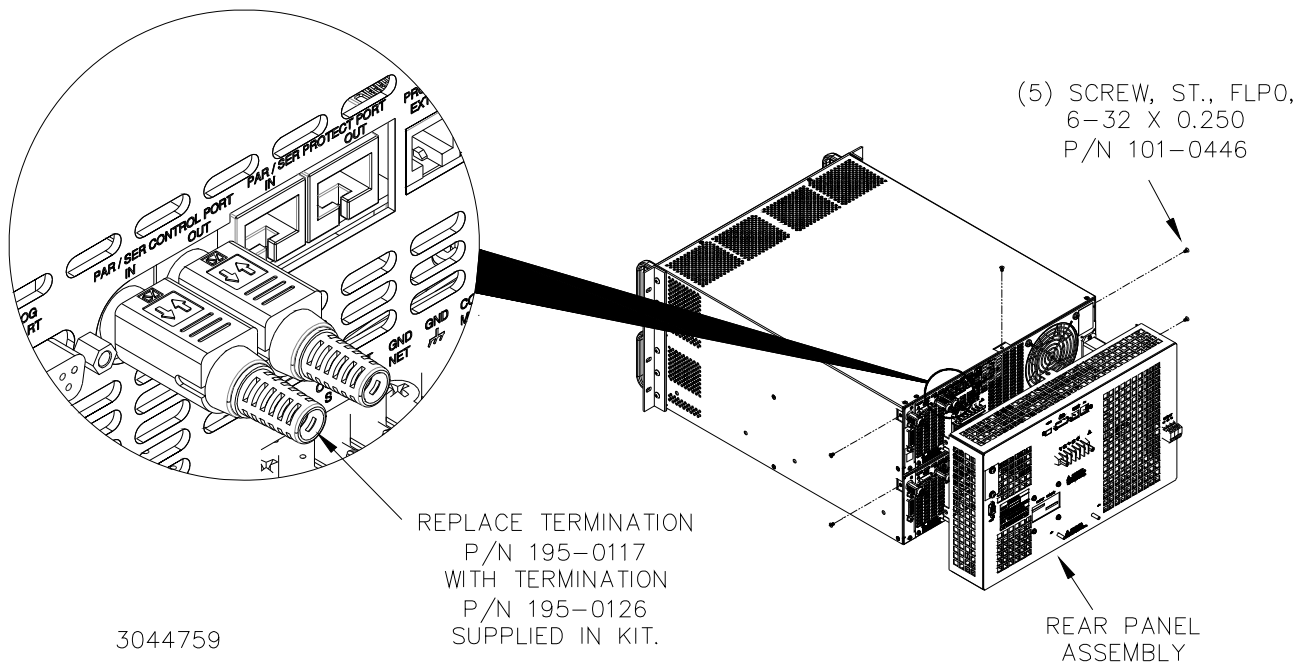

FIGURE 1. TERMINATION 195-0117 REPLACEMENT WITH TERMINATION 195-0126
1. Refer to Figure 1 and remove five screws securing the rear panel assembly to the chassis.